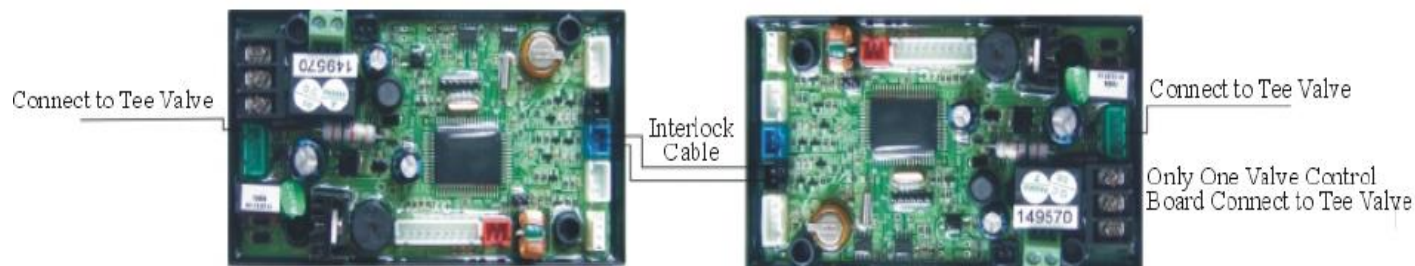

Figure 3-9 Wiring for Alternating Interlock
- * **Function:** One valve will always be in service. Refer to Figure 3-9.